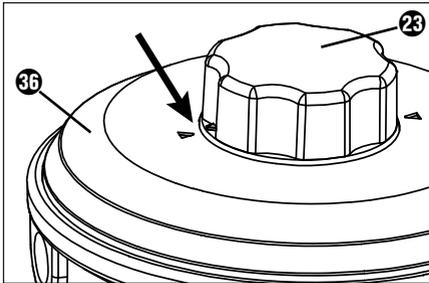

Fig. 1
- ◆ Snap both battery packs **43** into the motor block **1** (see Fig. 1).
- 1) Make sure that the two arrows on the cover 35 and on the rotary knob 23 of the line spool 22 point towards each other (see Fig. 1).